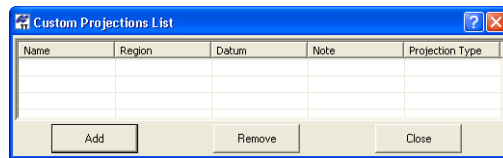

Figure 2-18. Custom Projections List
2. On the *Custom Projections List* (Figure 2-18 on page 2-13):